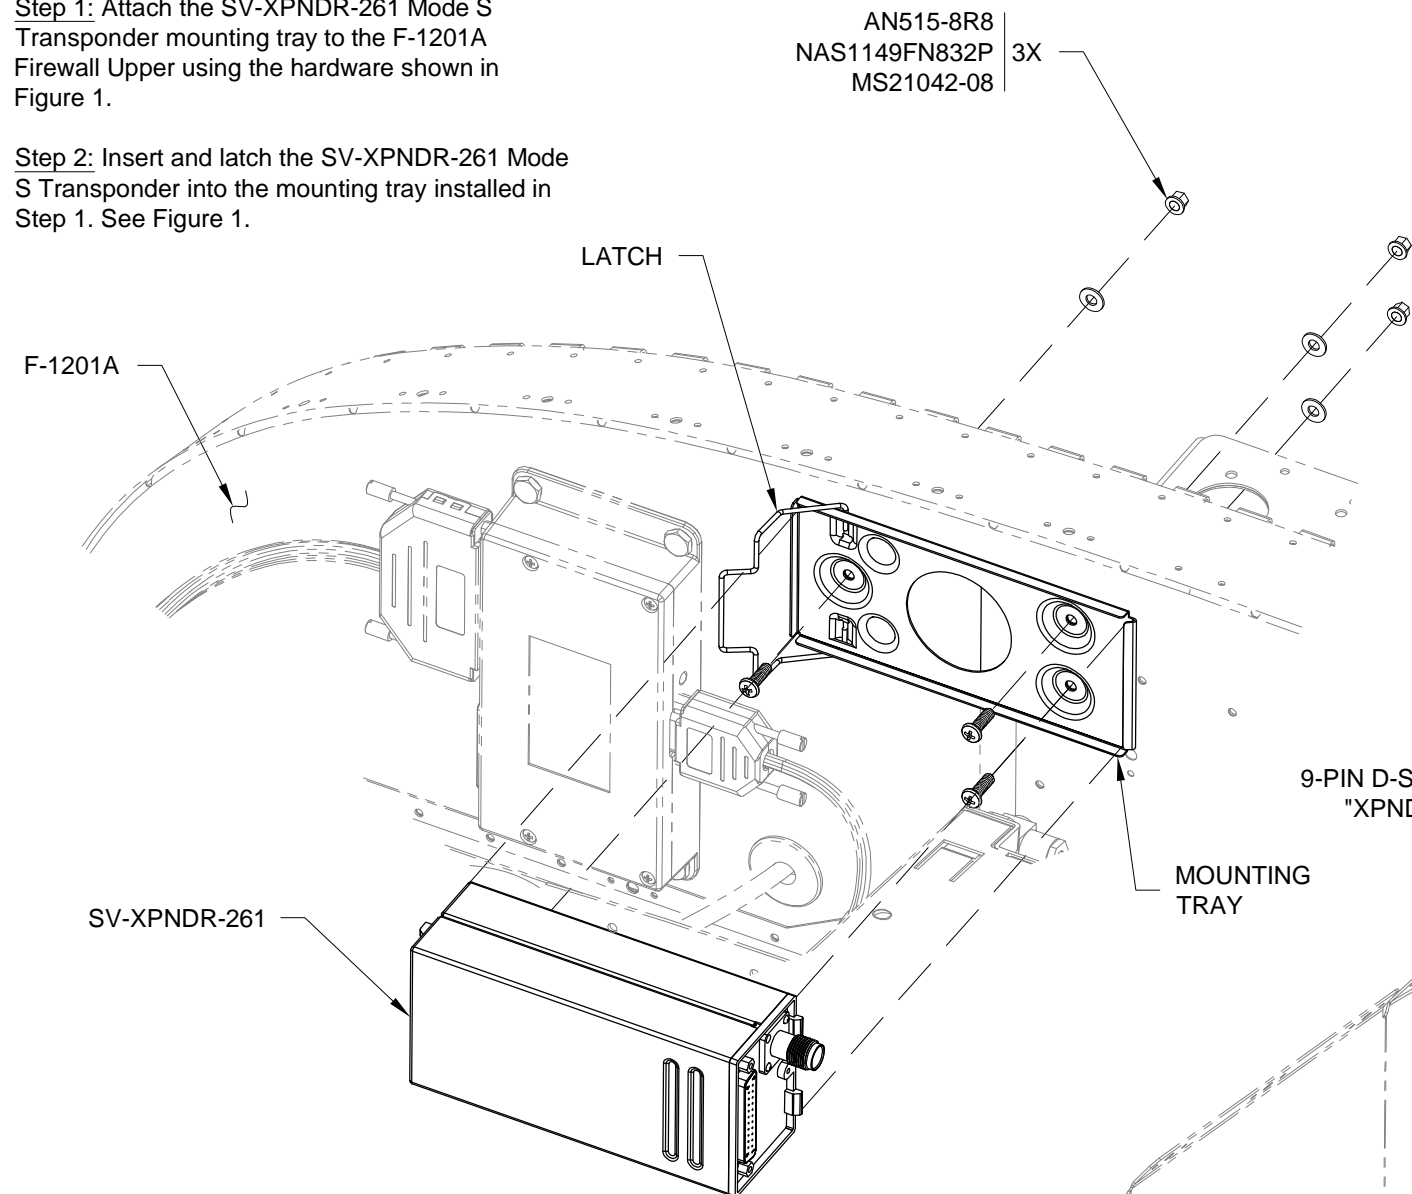

FIGURE 1: ATTACHING THE MOUNTING TRAY
Step 2: Insert and latch the SV-XPNDR-261 Mode S Transponder into the mounting tray installed in Step 1. See Figure 1.